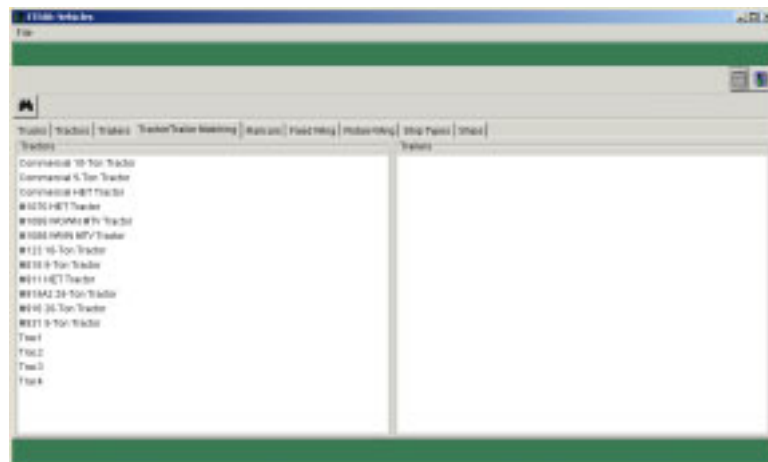

Figure 5.184 ETEdit: Vehicles Window (Tractor/Trailer Matching Tab)
- On the ETEdit: Vehicles window, click the Tractor/Trailer Matching tab. Tractors are listed in their corresponding column (Figure 5.184).